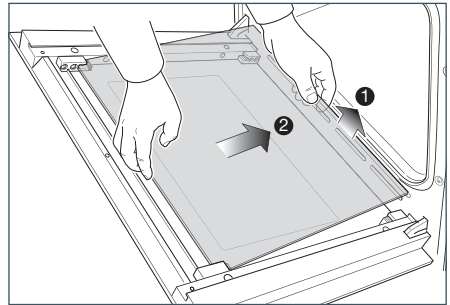

Fig.59c
- Gently lift the bottom edge of the pane (arrow 1 in Fig. 59c) and remove it by pulling it out from the top clamps (arrow 2 in Fig. 59c).